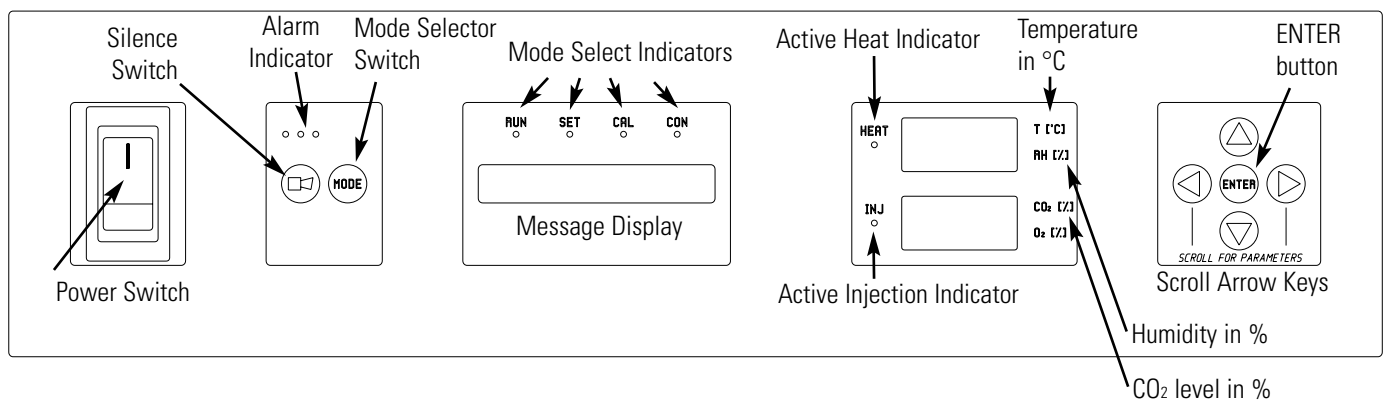

Figure 1-2. Control Panel
- Control Panel - Keypad, displays & indicators (Figure 1-2)